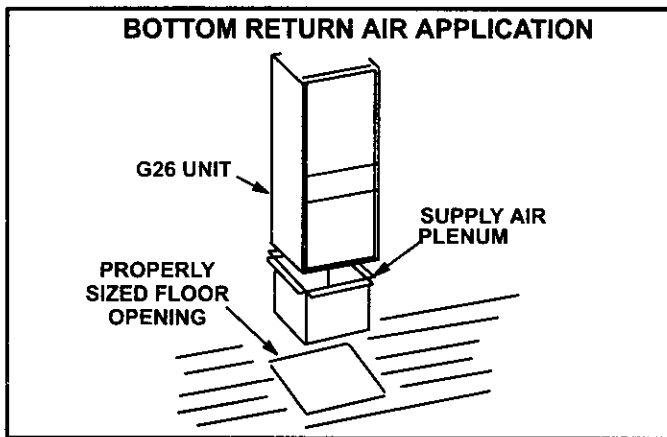

FIGURE 3
- 2 - Bend a flange on return air plenum and lower into floor or platform opening. See figure 3.